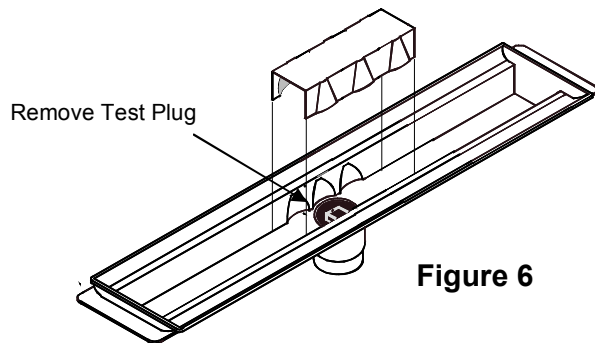

Figure 6
11. The Channel Drain is now ready to pressurize prior to shotcrete or gunite. A test plug is already installed (see Figure 6).
18. Remove the test plug from the bottom of the Channel Drain and glue in the Safety Shield with the supplied packet of glue (see Figures 6 and 7).